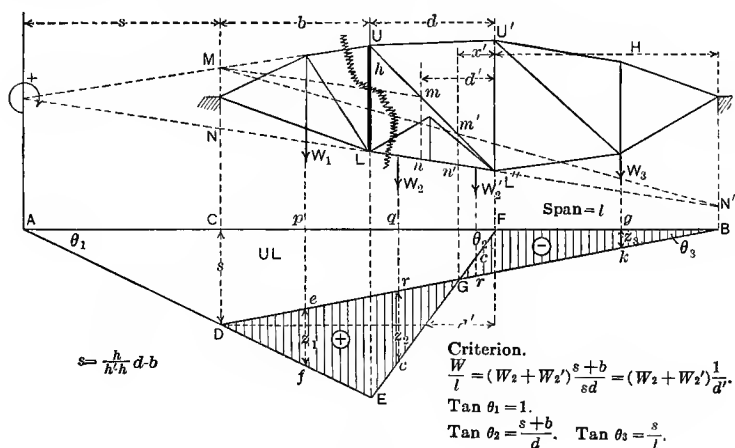

FIG. 10.
**Vertical of Sub-strut Truss.**—As indicated in Fig. 10, the vertical of a sub-strut truss is a member of the main truss.
of the *cut stringer*. The graphical determinations of  $d'$  and  $x'$  are clearly shown in Fig. 10.